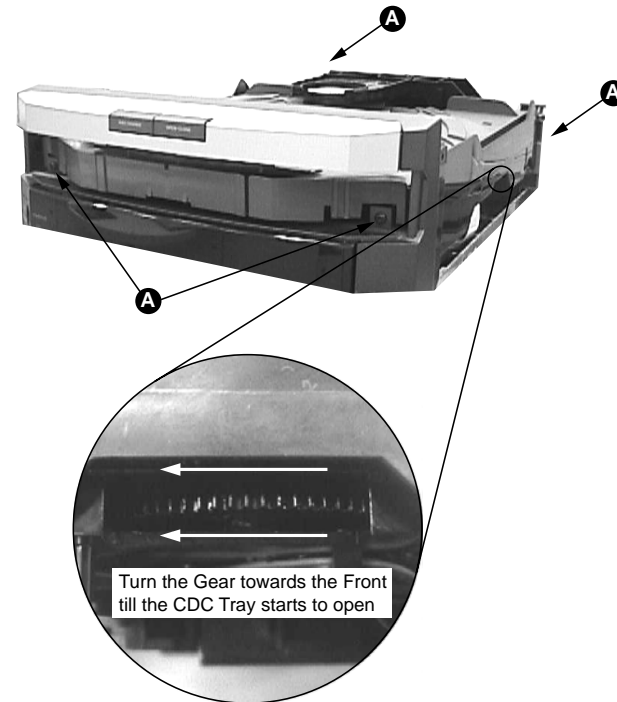

Figure 2
- 1) Loosen the 4 screws, slide Cover top (pos 253) towards the rear and remove it upwards.
- 2) Loosen 3 screws slide the Panel right (pos 252) towards the rear and remove it outwards. Do likewise for the Panel left (pos 251).
- 3) Push the gear slowly towards the front as shown in figure 2 until the CDC tray starts to move out of the Front Cabinet (pos 101). The CDC tray is now disengage and can be pulled out completely.
- 4) Remove the Cover Tray (pos 105) as shown in figure 2.
- 5) Loosen 4 screws A to remove the CDC Module (pos 1104) as shown in figure 2.